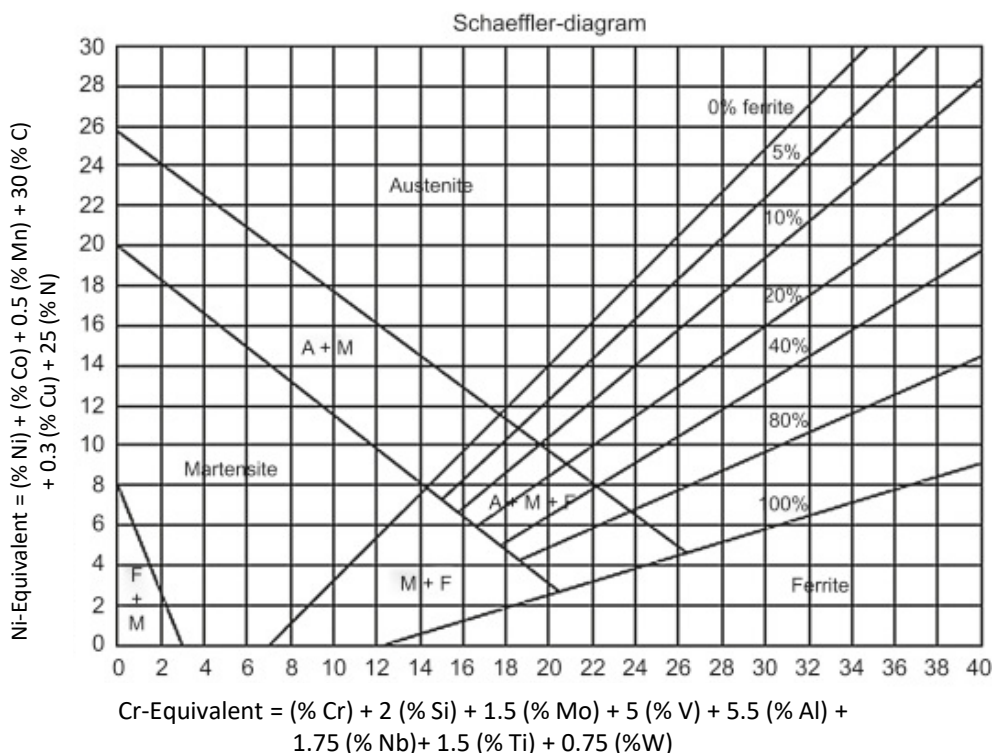

Figure 4: Schaeffler-De Long diagram
- As you know, stainless steels are grouped according to their microstructure/alloying concept. Note the corresponding alloying concept from the materials in Table 1 for each composition (tip: The Schaeffler diagram in Figure 4 might give you hints). Moreover, give the name according to the nomenclature.